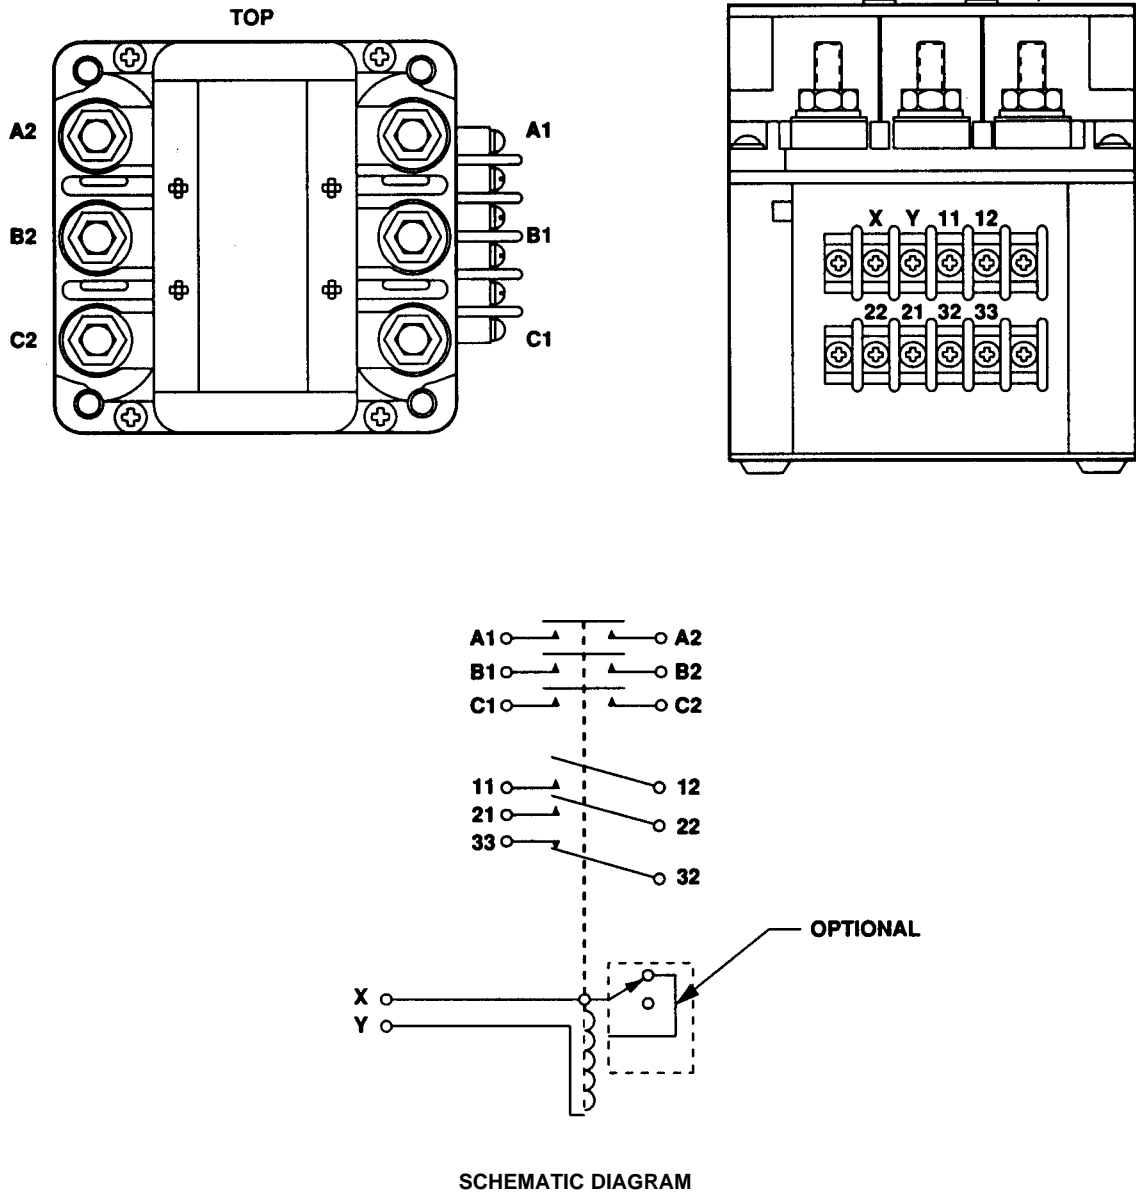

Figure 5-12. Contactor Test Points.
a. Using a multimeter, test contactor K1 (16) as follows:
(1) Refer to figure 5-12 and perform following continuity checks. If any multimeter indication is not correct, replace contactor (paragraph 5-12).